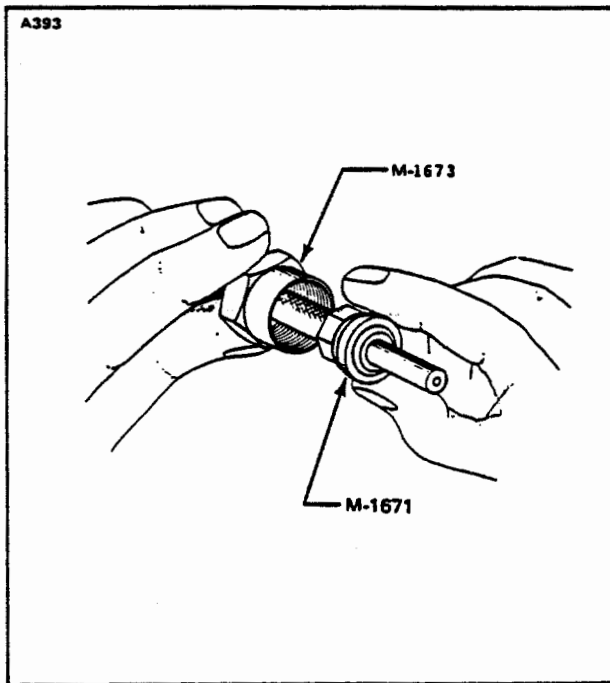

Figure 8-25. Installation of Plug Endnut
- g. On spark plug end of wire install M-1673 Nut followed by M-1671 Female Taper Hex Ferrule. Refer to Figure 8-25.